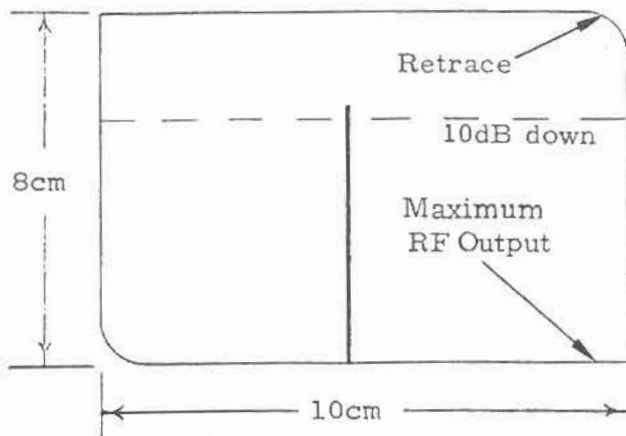

Figure 4-8 RF Pip Marker Pulse
16. Set the vertical sensitivity for a full 8 cm display. See Figure 4-8.
17. Set the horizontal time base to EXT HORIZ and adjust the horizontal time base vernier for a full 10 cm display. See Figure 4-8.
18. Verify that the maximum RF output is momentarily blanked to produce an RF PIP at the preset marker frequency (center of display) and that its level is greater than 10dB down. See Figure 4-8. If the level is less than 10dB down, repeat the marker amplitude adjustment outlined in steps 8 and 9.